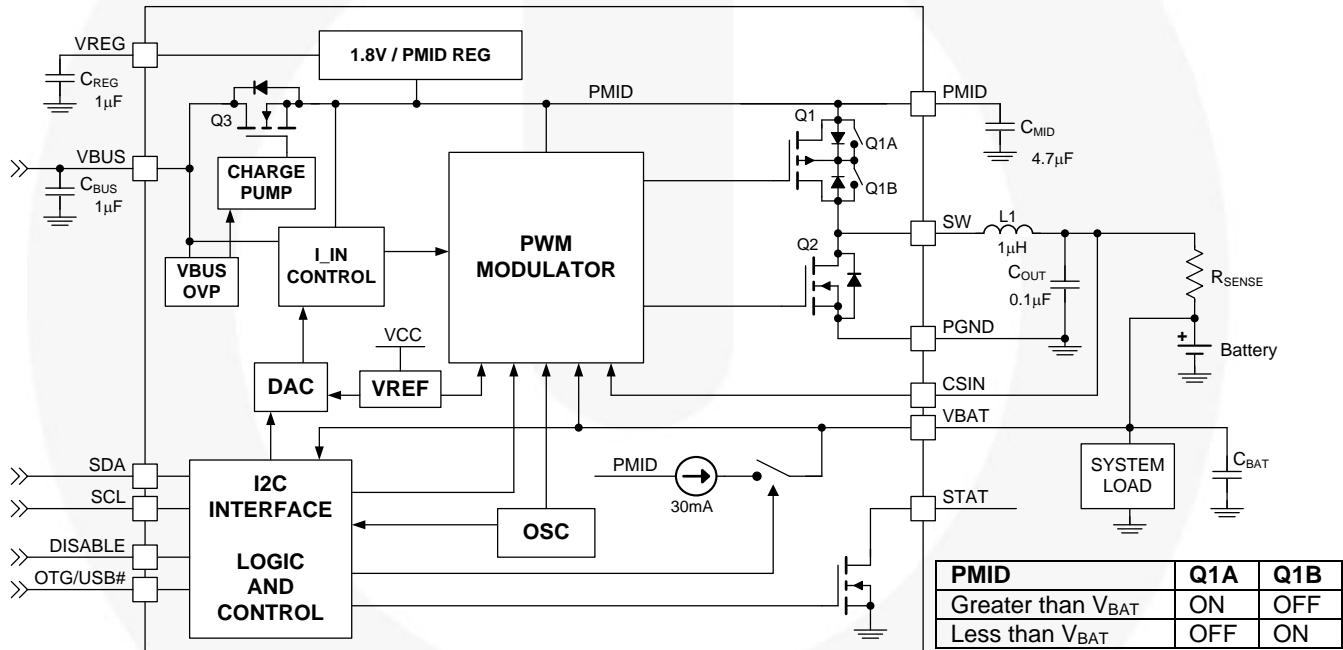

Figure 2. IC and System Block Diagram
3. A 6.3 V rating is sufficient for CMID because PMID is protected from over-voltage surges on VBUS by Q3 (Figure 2).